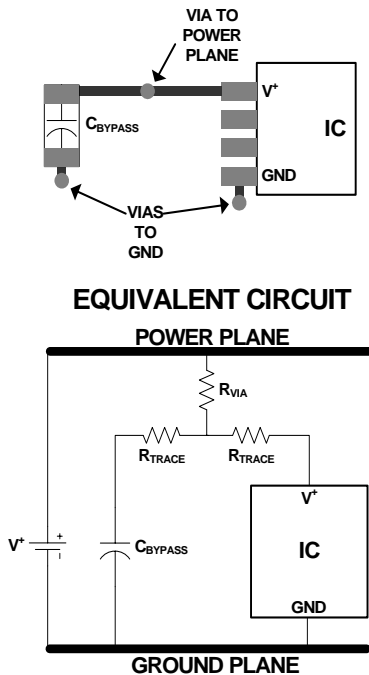
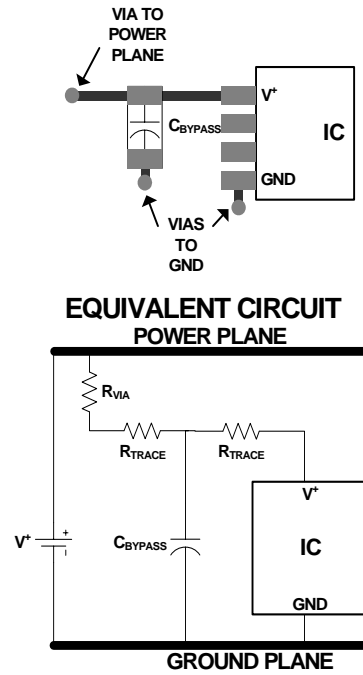

FIGURE 12. SUB-OPTIMAL BYPASS CAPACITOR LAYOUT
FIGURE 13. OPTIMAL ("T") BYPASS CAPACITOR LAYOUT
- Ideally each supply should be bypassed to ground with a $0.1\mu\text{F}$ capacitor. Minimize trace length and vias to minimize inductance and maximize noise rejection. Figure 12 demonstrates a common but non-ideal PCB layout and its equivalent circuit. The additional trace resistance between the bypass capacitor and the power supply/IC reduces its effectiveness. Figure 13 demonstrates a better layout. In this case there is still series trace resistance (it is impossible to completely eliminate it), but now it is being put to good use, as part of a "T" filter, attenuating supply noise before it gets to the IC, and reducing the amount of IC-generated noise that gets injected into the supply. Follow the good supply bypassing rules shown in Figure 13 to the extent possible.